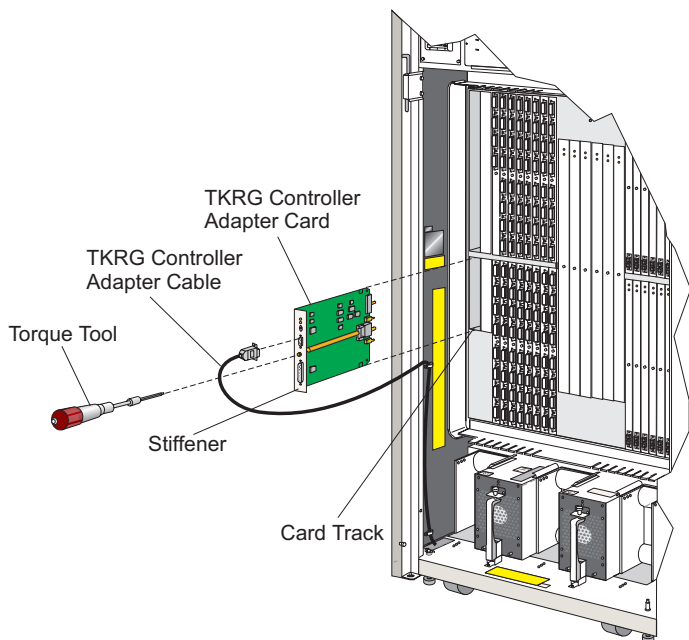

Figure 3-26. Token-Ring (TKRG) Controller Adapter Card, Redundant
Use the following procedure to remove a TKRG Controller Adapter card from a **redundant** TKRG card unit. Refer to Figure 3-26 on page 3-53.
3. Note the position of the data rate switch on the defective TKRG card (Up=16Mbps, Down=4Mbps). Refer to Figure 3-26.
4. Move the TKRG adapter cable from the defective TKRG card to the redundant TKRG card. Refer to Figure 3-26 on page 3-53.
Use the following procedure to replace a TKRG card within a **redundant** TKRG card unit. Refer to Figure 3-26 on page 3-53.